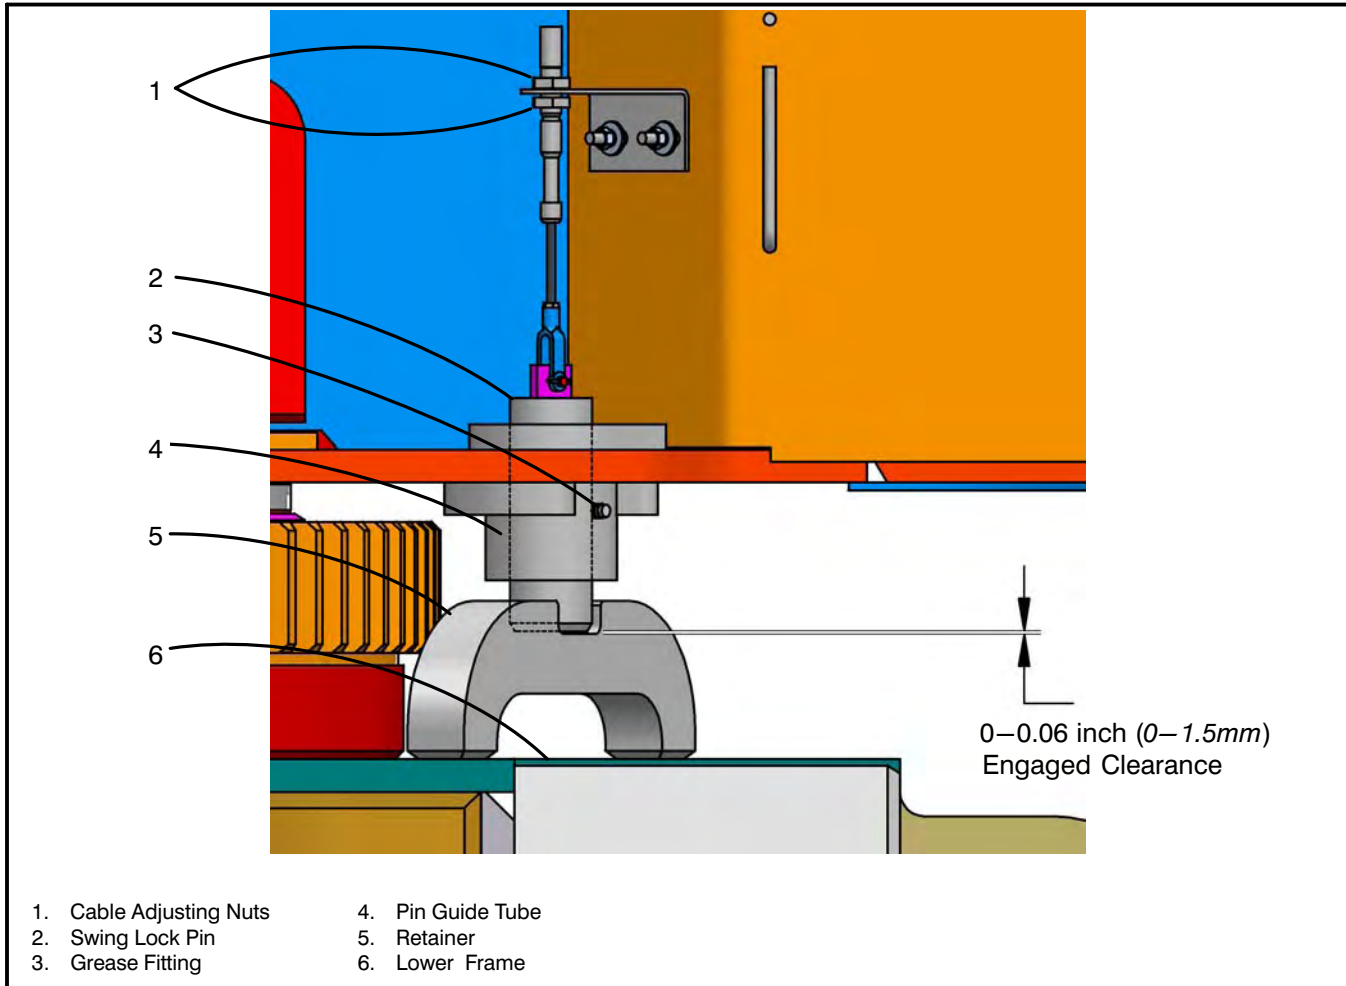

Figure 3-2
2. Check the engagement of the swing lock pin in the retainer on the lower frame. The pin should extend in the retainer to within 0-0.06 inch (0-1.5mm) from the bottom of the retainer slot. Refer to Figure 3-2.